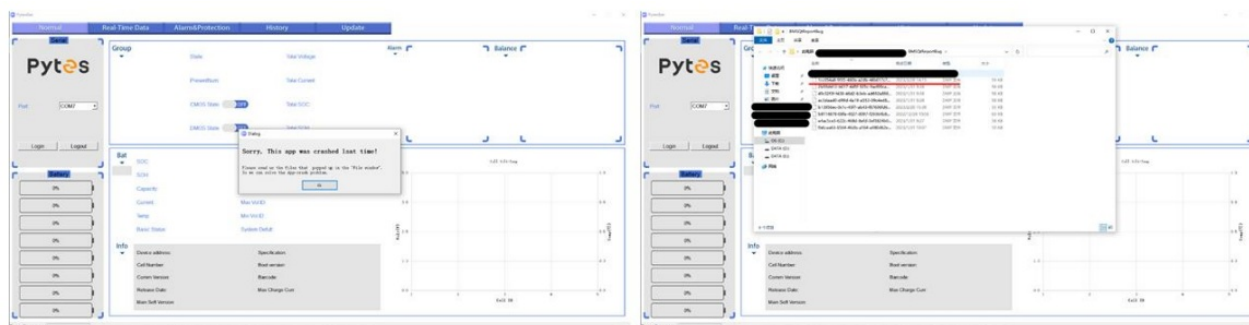

Figure 12
- If the program crashes and upon restart, the program prompts the user the program has crashed, as shown in Figure 12. Please send the crash info to our after-sale team and help us to improve our program. You can find the log in location shown as Figure 12.